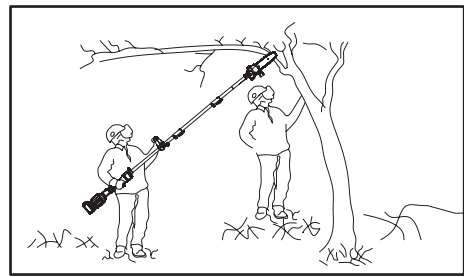

Fig. 48
7. Keep other persons away from cutting end of product and at a safe distance from the work area. Maintain a minimum distance of 10 m to bystanders (Fig. 48).